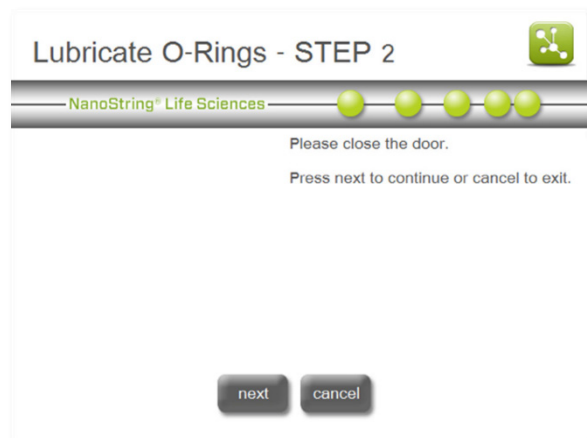

Figure 121: The 'Lubricate O-rings—STEP 2' screen.
2. Follow the instructions as directed on the screen (**Figure 121**).